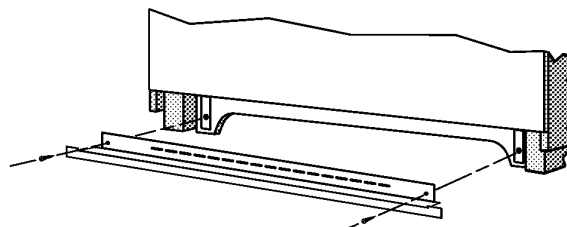

FIGURE 1
- Open oven door to the "Full Open" position (see Figure 1).
- Rotate hinge locking lever UP to the locked position to secure the oven door to the unit (see Figure 1).
NOTE: Make sure that hinge locking lever is rotated fully UP to the locked position as shown (see Figure 1) before closing oven door.
If hinge locking lever will not rotate fully UP to the locked position as shown (see Figure 1) then the hinge arm is not properly seated on the receiver. Rotate the hinge locking lever DOWN to the unlocked position (see Figure 2) and remove oven door as outlined in the Oven Door Removal procedure. Then replace the oven door as outlined in the Oven Door Replacement procedure, making sure that the hinge arm slots are fully seated on the horizontal pins in the hinge receiver.
- Once the hinge locking lever is rotated fully UP to the locked position (see Figure 1) close the oven door.
5. See figure 1 for lower trim installation.